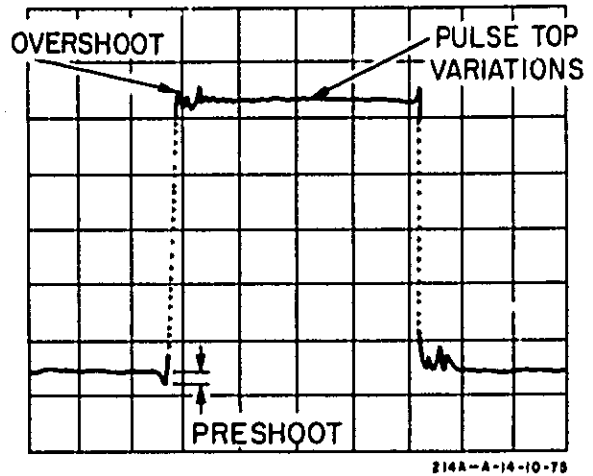

Figure 5-1. Positive Pulse Shape 10-V Amplitude
e. Adjust sampling plug-in for 8-cm display as shown in figures 5-1 and 5-2.